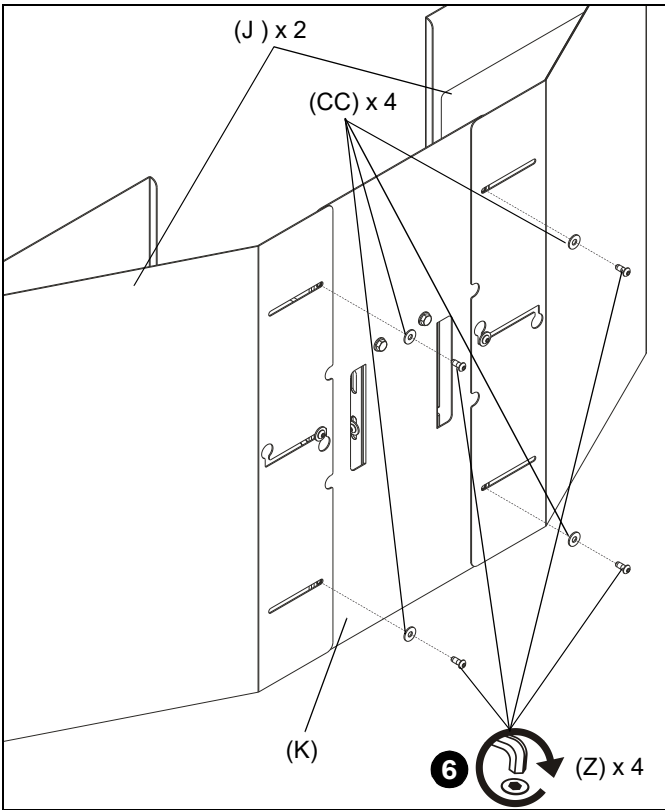

Figure 8
- Use four 1/4-20 x 5/8" button head cap screws (Z) and four 1/4" washers (CC) to secure two side wind shields (J) to center wind shield (K). (See Figure 8)
- Tighten all six screws (Z).